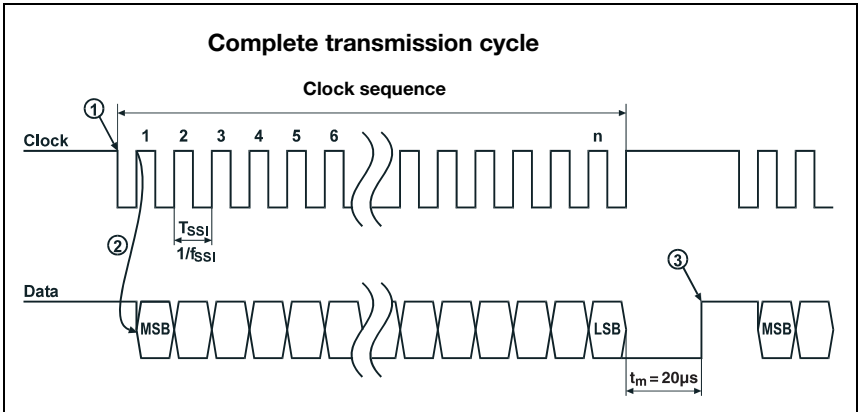

Figure 9.1: SSI data transmission sequence diagram
In the quiescent state, both the clock line as well as the data line are at HIGH level. At the first HIGH-LOW edge (point ① in figure 9.1) the data in the internal register are stored. This ensures that the data are not changed during serial transfer of the value.
When the next clock signal change from LOW to HIGH level (point ② in figure 9.1) occurs transmission of the position value begins with the most significant bit (MSB). With each subsequent change of the clock signal from LOW to HIGH level, the next least-significant bit is transmitted on the data line. After the least significant bit (LSB) has been output, the clock signal switches from LOW to HIGH for one last time and the data line switches to LOW level (end of transmission).
A monoflop retriggered by the clock signal determines the time span before the SSI interface can be called for the next transmission. This results in the minimum pause time between two successive clock cycles. If time $t_m = 20\mu\text{s}$ has elapsed, the data line is returned to the quiescent level (HIGH) (point ③ in figure 9.1). This signals completed data communication and that the device is again ready for transmission.